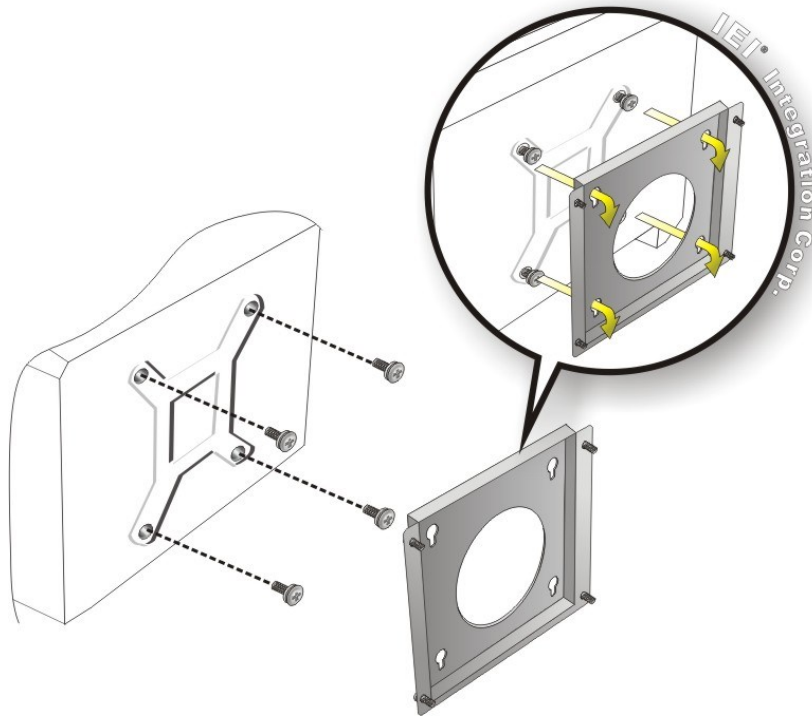

Figure 3-11: Mount the Chassis
- Step 6:** Insert the four monitor mounting screws provided in the wall mounting kit into the four screw holes on the rear panel of the monitor and tighten until the screw shank is secured against the rear panel (**Figure 3-11**).
- Step 8:** Carefully insert the screws through the holes and gently pull the monitor downwards until the monitor rests securely in the slotted holes (**Figure 3-11**). Ensure that all four of the mounting screws fit snugly into their respective slotted holes.